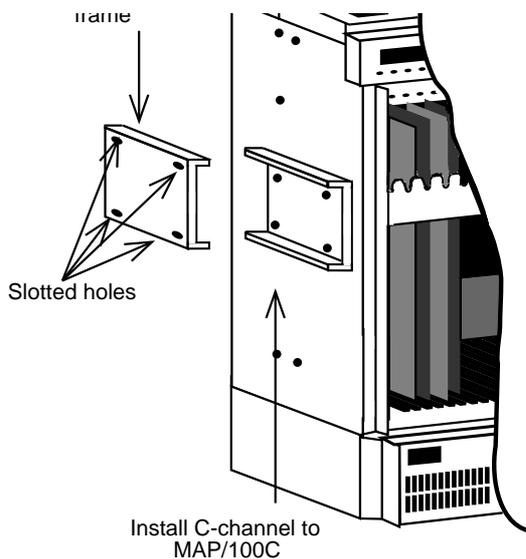

Figure 2-24. Installing C-Channel Brackets onto the Frame and the MAP/100C
3. Install C-channel brackets on the 5ESS Switch frame and on the MAP/100C. There are two sets that accompany each unit. The slotted C-channel must be installed onto the frame (Figure 2-24).